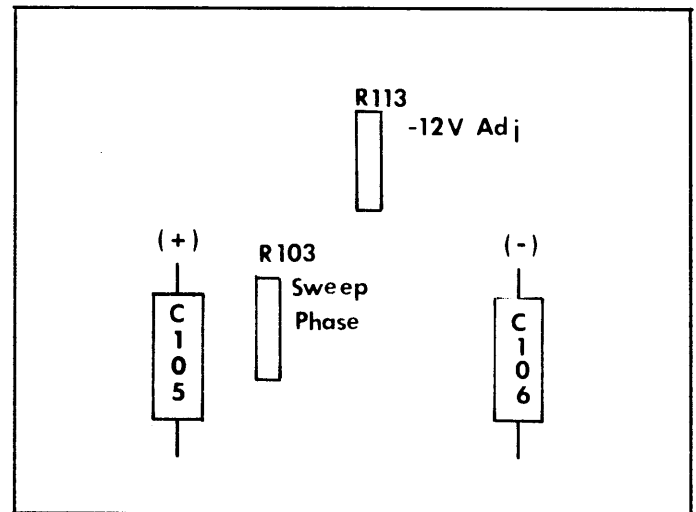

Fig. 54 SG165 Power Supply Adjustments
2. Adjust R103 on the POWER SUPPLY board to obtain a circular pattern on the scope, indicating a 90 degree phase shift between pins 2 and 3. (Refer to Fig. 54)